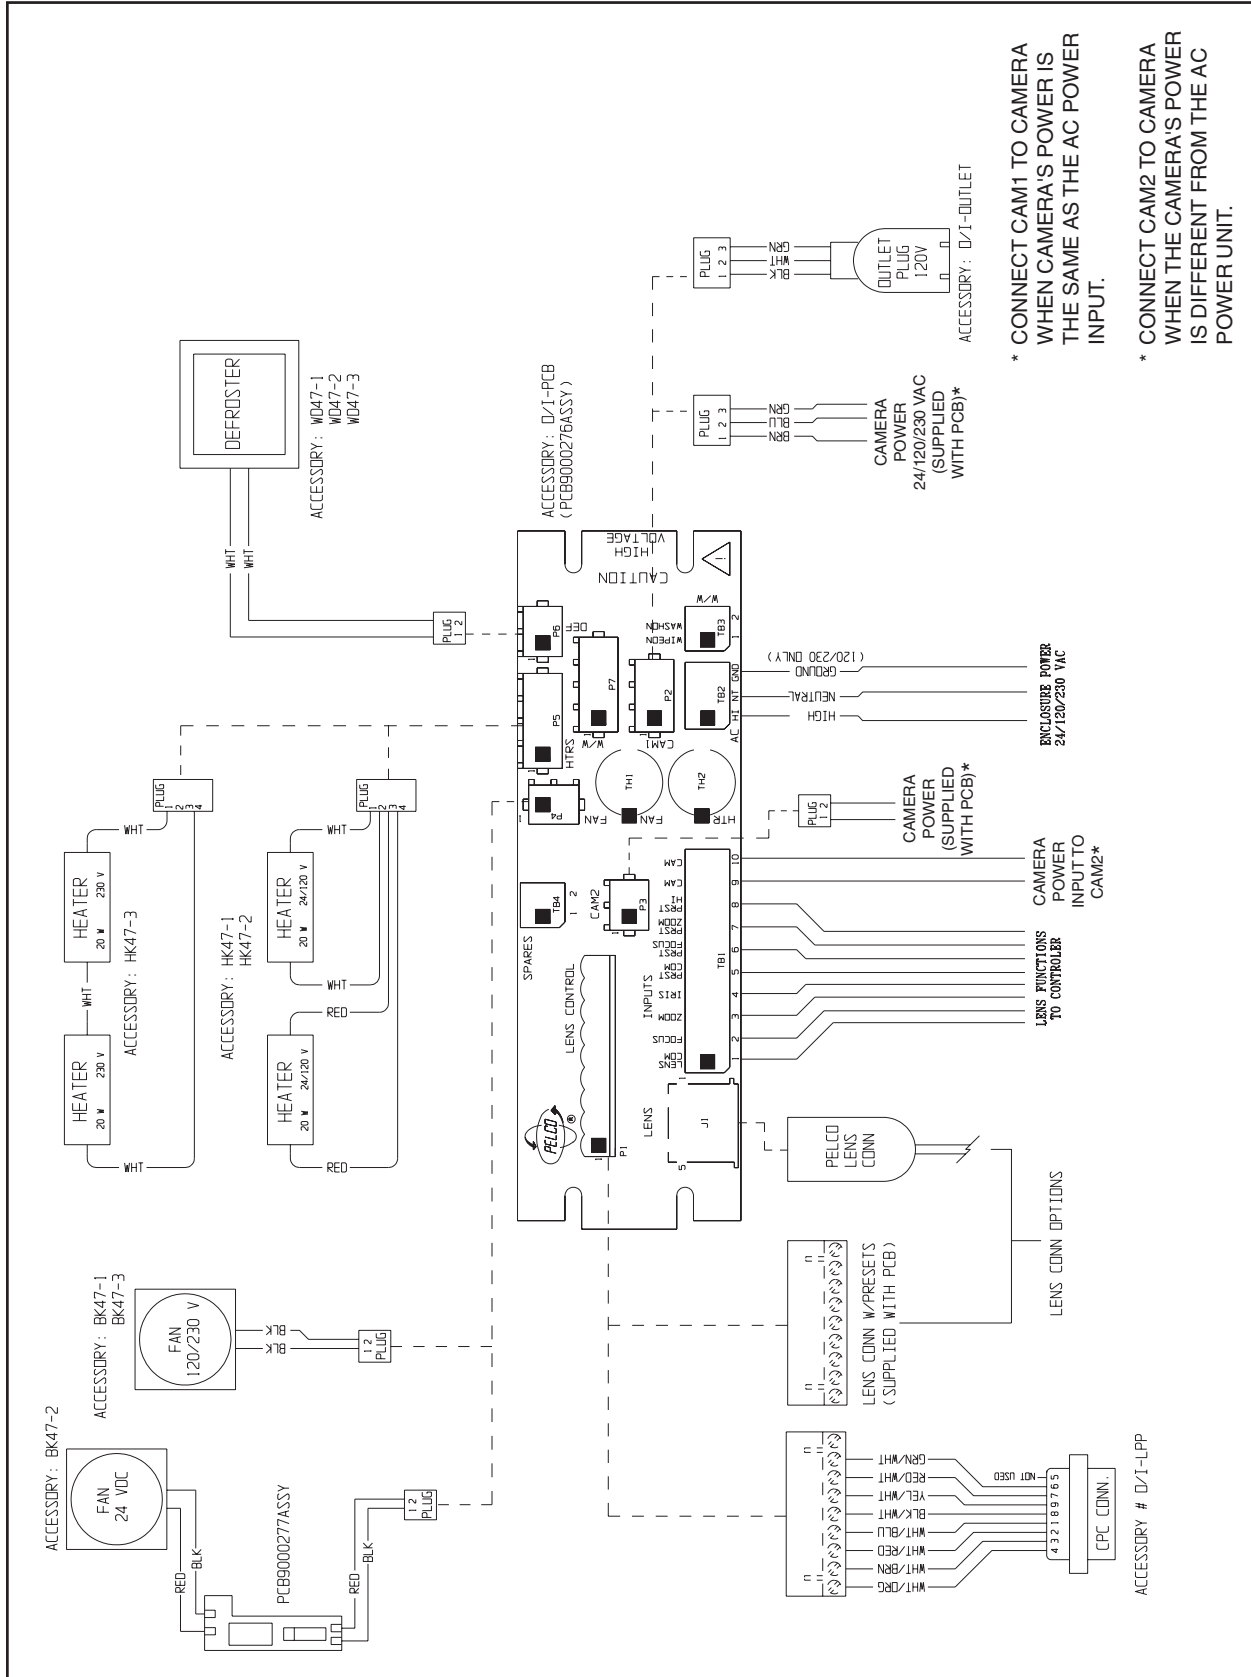

Figure 2. EH4700L Series Input Wiring Diagram
8. If your camera has a motorized zoom lens control, connect or wire the camera's lens control to the LENS or LENS CONTROL connector on the circuit board. Refer to Figure 2 to see where to connect different lens connector options.
9. Wire power from the circuit board to the camera (refer to Figure 2).